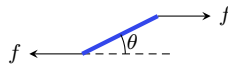

Figure 4.4: Stretching a single bond in a subchain.
- Consider a single bond defined by the vector \mathbf{l} , which is being stretched by a force f in each direction at both ends (Figure 4.4).
- But as the force becomes very large ($\beta \gg 1$), we cannot extend beyond the total length of the system. Here, we need the Figure 4.4 derivation.
- The data they found matched the entropic FJC model really well up to about 20%, and then matched the Figure 4.4 one past that pretty well!